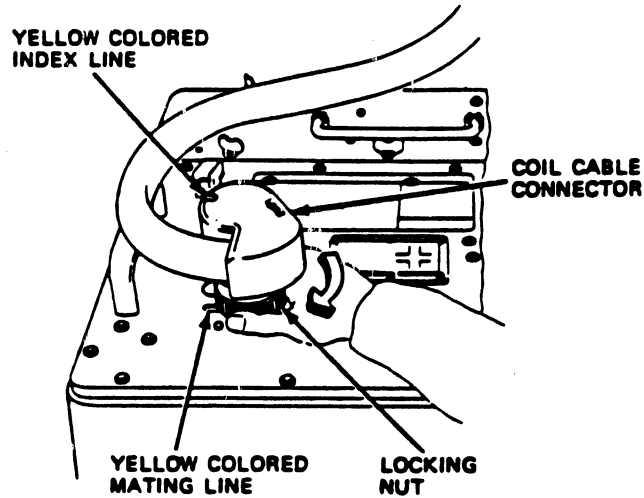

Fig 2-42. Installing missile guidance set.
Step 3. Line up the yellow colored index line on the coil cable connector with the yellow colored mating line next to connector J1. Push straight down on the cable connector and turn the locking nut clockwise until the red mark on the J1 connector cannot be seen (fig 2-42).